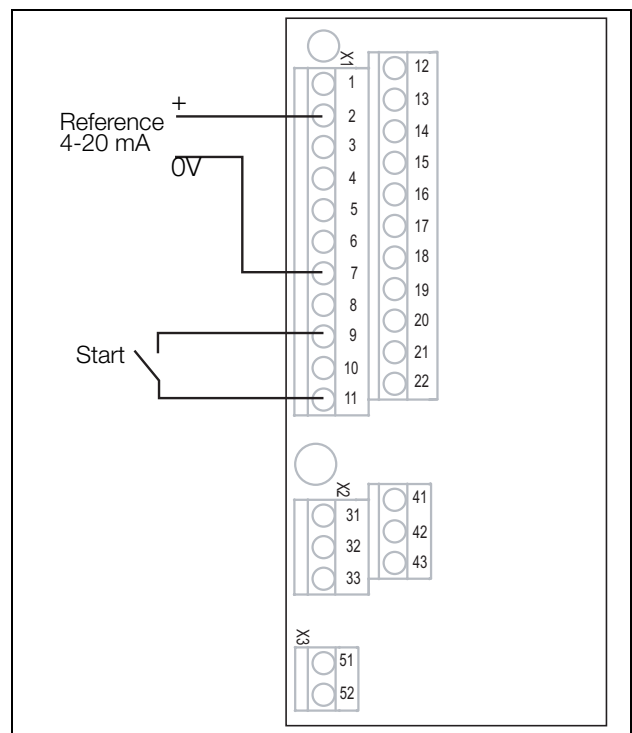

Fig. 68 Wiring
2. Connect a reference value between terminals 7 (Common) and 2 (AnIn 1) as in Fig. 68.
3. Connect an external start button between terminal 11 (+24 VDC) and 9 (DigIn2, RUNR) as in Fig. 68.
14. Connect digital and analogue inputs/outputs as in Fig. 68.